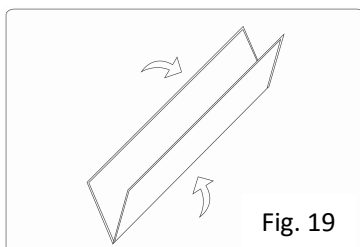

Fig. 19
1. Remove **ropes (G) and stakes (I)** from the ground.
5. Loosen and remove the ropes, **knob screws (E)** and **eyebolts (F)** from each leg.
6. Remove the frame **legs (B)** from the **folding frame (A)**.
7. Detach the **screen material (D)** from the **folding frame (A)** by carefully unsnapping each button as shown.
8. Fold **screen material (D)** in half, folding the bottom of the screen towards the top. Then, fold in half again in the same way. Lastly, fold the material into thirds to condense the length, see Fig. 19 – 21.